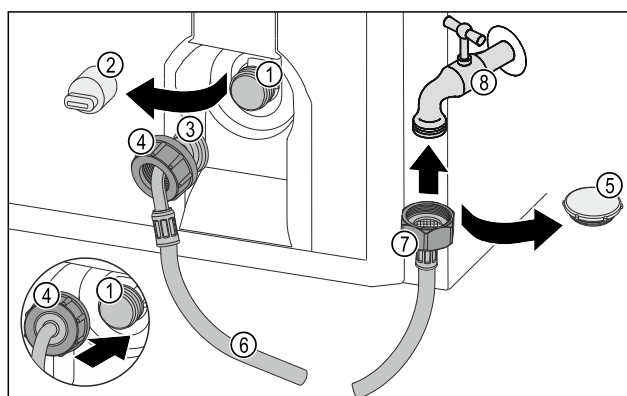

Fig. 54
- Remove the closure cap Fig. 54 (5).
- Place the straight end of the hose Fig. 54 (7) on the tap Fig. 54 (8).
- Tighten the nut at the straight end of the hose Fig. 54 (7) in a clockwise direction.